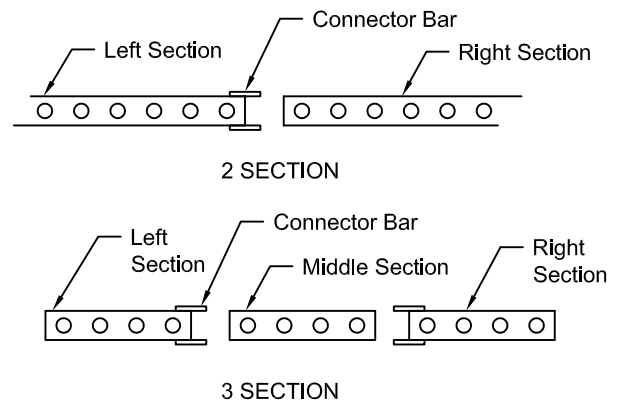

Figure 2
4. Align Left Section with Right Section by alpha-numeric code. See Fig. 2.
5. Align Right Section, Left Section, and Middle Section. See Fig. 2.